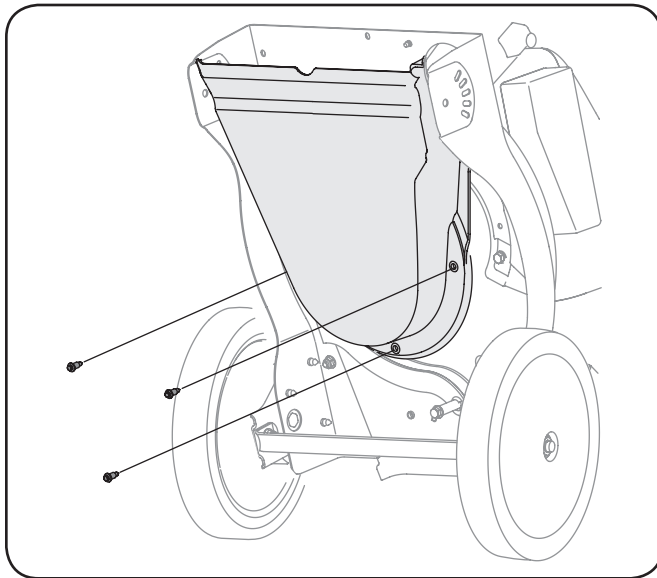

Figure 7-4
7. Carefully tilt and support the unit up to provide access underneath to the nozzle mounting hardware and impeller. Remove the three shoulder bolts securing the black plastic lower flail housing to the lower housing. Refer to Fig. 7-4